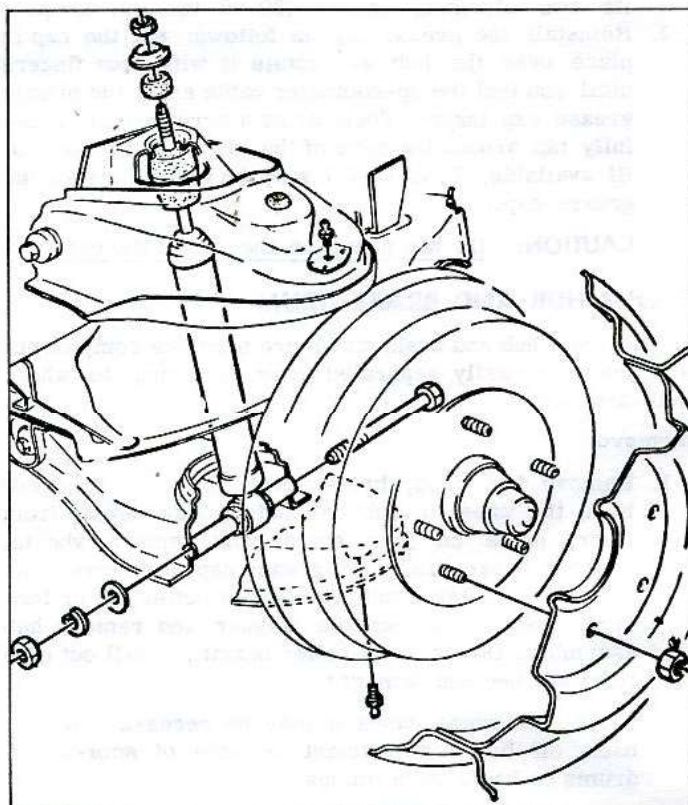

Fig. 3-10—Shock Absorber Installation
1. Hold shock absorber upper stem on flat section and remove upper attaching nut, cup washer and grommet (fig. 3-10).